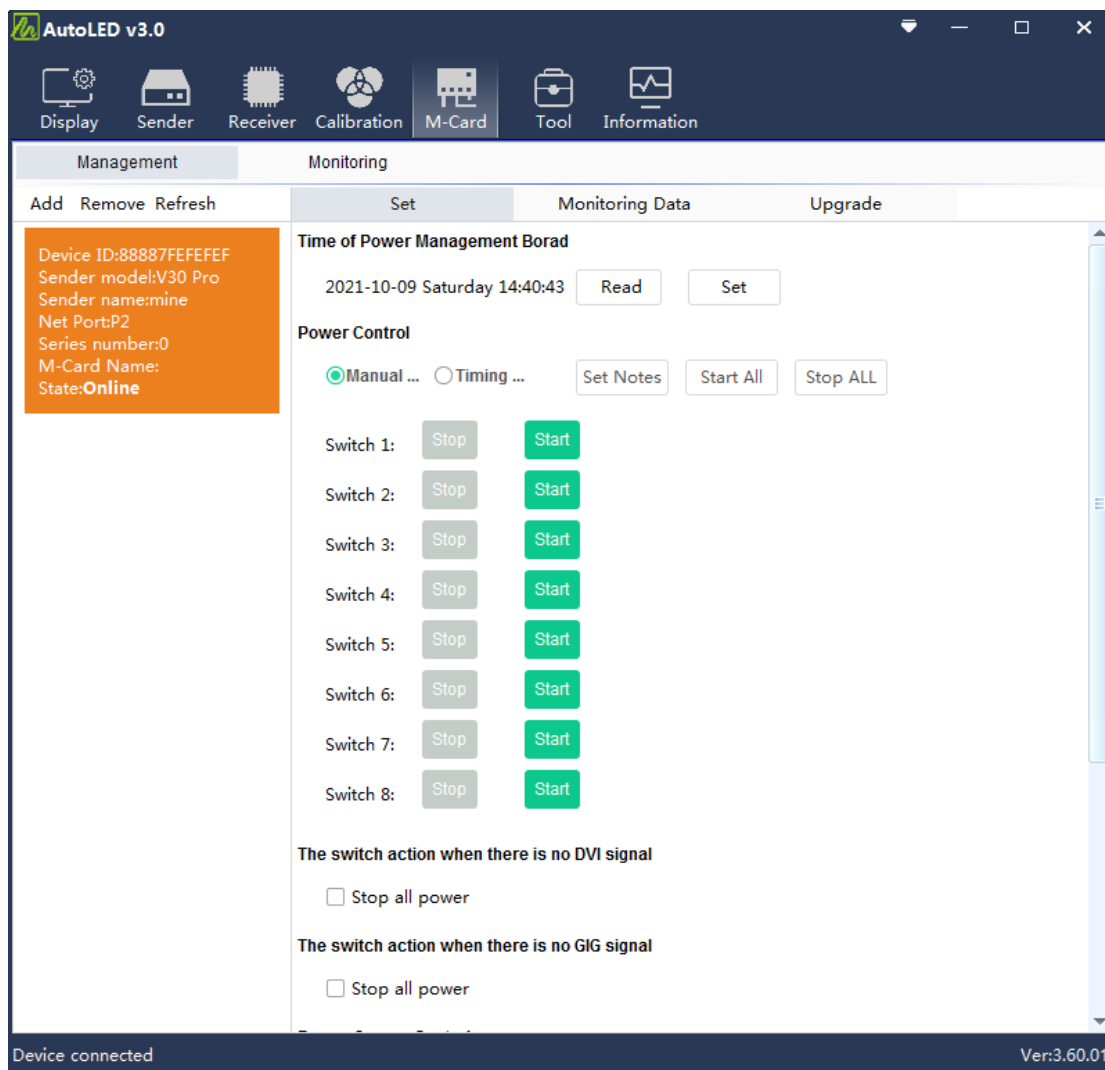

Figure 7-2-1 Add Multifunctional Card
(1) The multifunctional card has been added, as shown in Figure 7-2-1